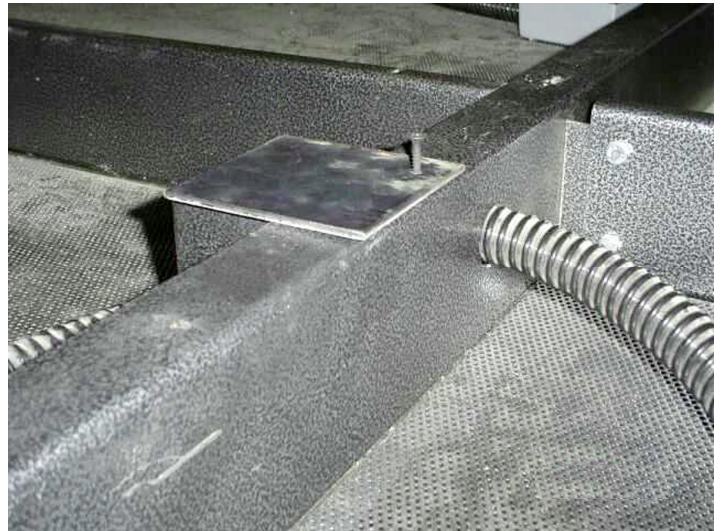

Figure 41
15. Attach and secure the metal cover on top of the metal post (Figure 41). We recommend you apply silicone sealant around the edge of the cover to prevent possible water damage.